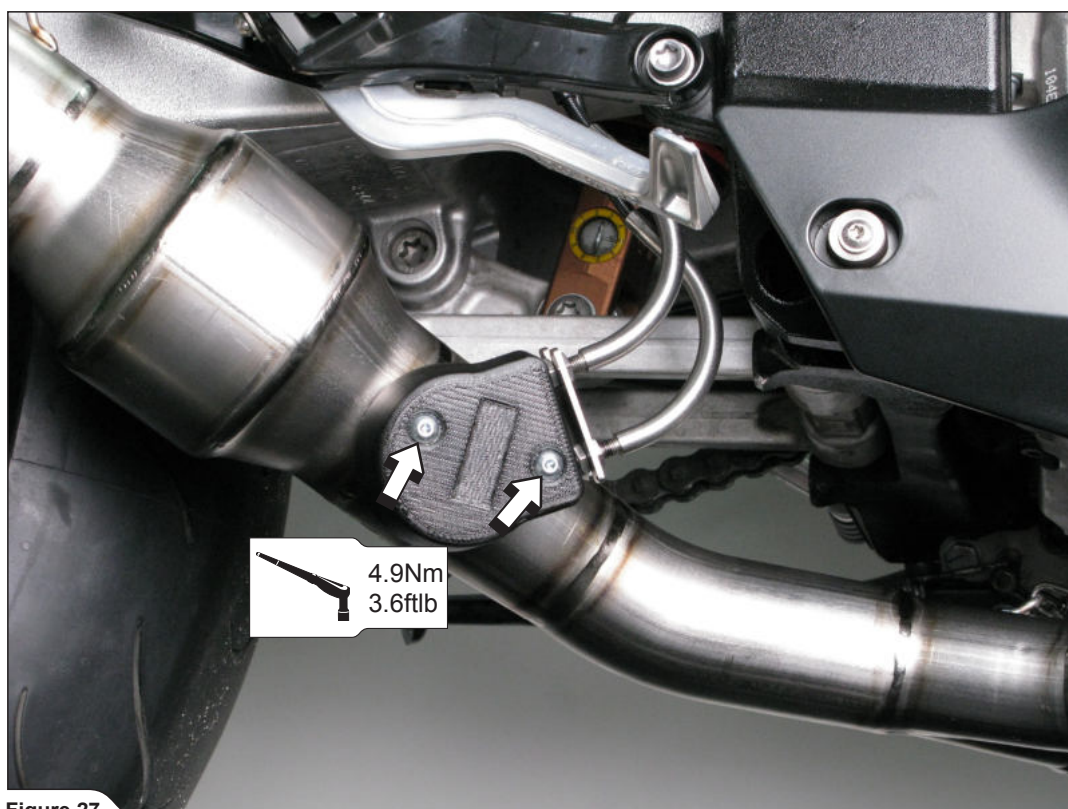

Figure 27
11. **For street legal Racing and Evolution only:** tighten the carbon-fiber heatshield onto the exhaust valve bracket, using Akrapovič bolts and heat resistant washers (**Figure 27**).